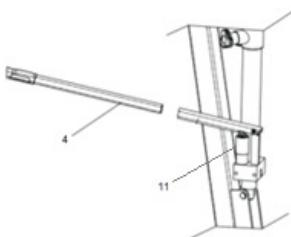

Fig. 6
- Pull out the knob and insert the handle (4 – Fig. 6) into the cylinder (11 – Fig. 6), as shown below.